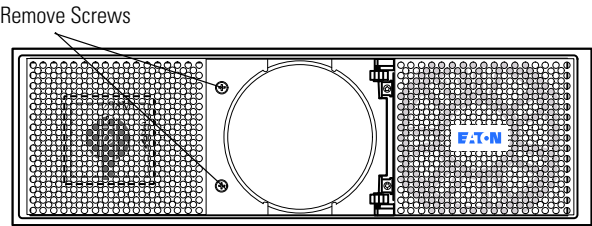

Figure 19. Remove the Front Cover Screws
- 2. Remove and retain the two left-side Phillips-head screws that secure the front cover (see Figure 19).